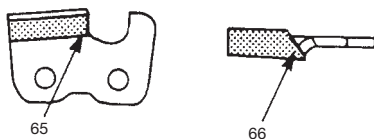

Fig. 42
- 6) File enough to remove any damage to cutting edges (side plate (65) and top plate (66)) of cutter. (Fig. 42)